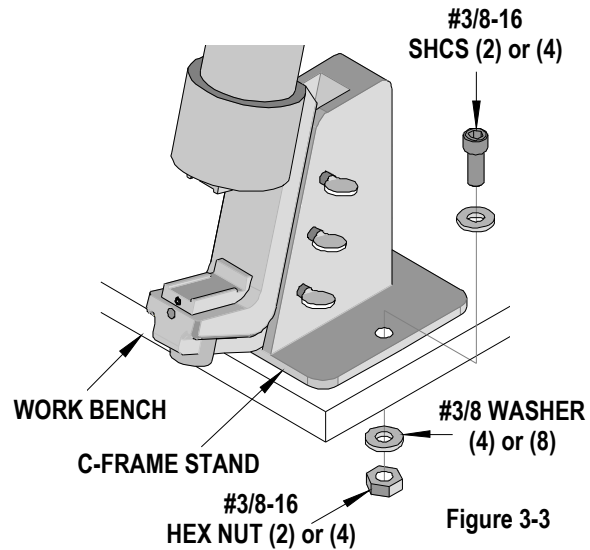

Figure 3-3
- When using the optional C-Frame stand, be sure the C-Frame stand assembly is securely fastened to a clean, sturdy workbench or table in a well-lighted area. Fasten the stand with two #3/8-16 SHCSs, nuts, and washers of sufficient length for the tabletop. (Not supplied). See Figure 3-3. (Some stands may have four mounting holes instead of two.)